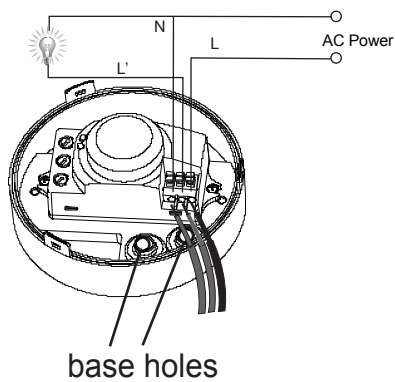

fig.5
4. Put the power wire and load wire through the base holes (see fig.5) ;